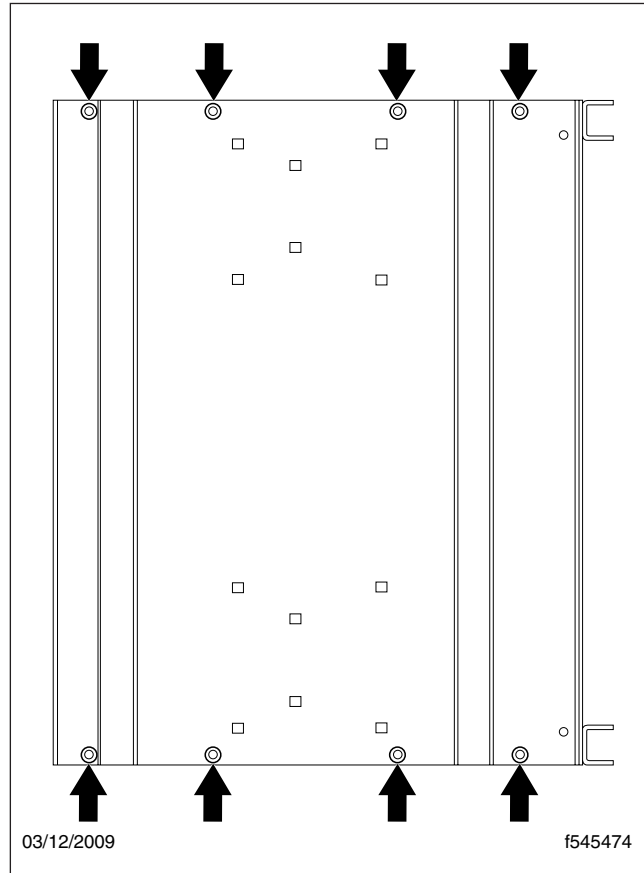

Fig. 4, Resizing Existing Battery Tray Holes
- 11.1 If needed, resize the existing holes to 1/4 inch (6.35 mm). See Fig. 4.